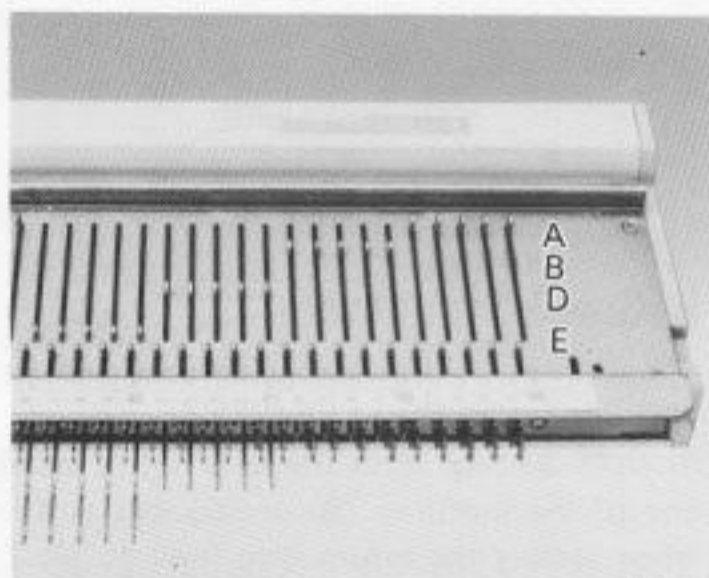
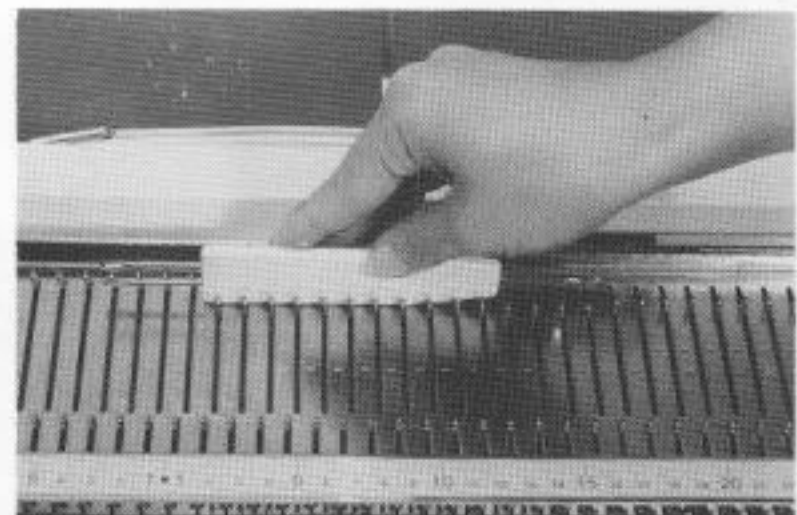

Fig.22
Fig.40
Positions of the needles herein referred to are positions of the butts of the needles. (Fig.22)
- e) Using the plastic handle of the transfer tool, bring the required number (30 or so) of needles forward as shown in Fig.40 and align them in working position (B) – see also Fig.22.